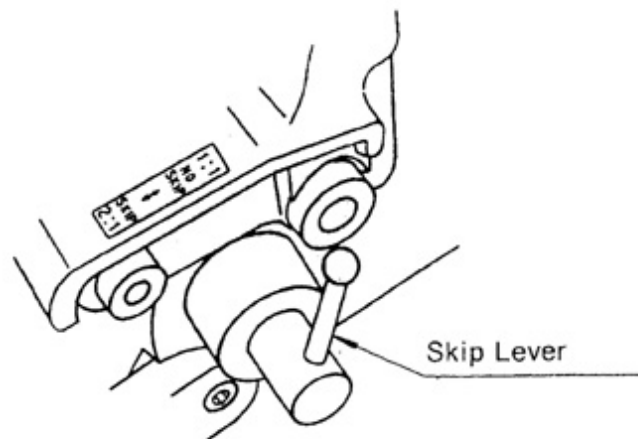

Fig. 20
11. Skip Stitch Device (Figs. 20—21)